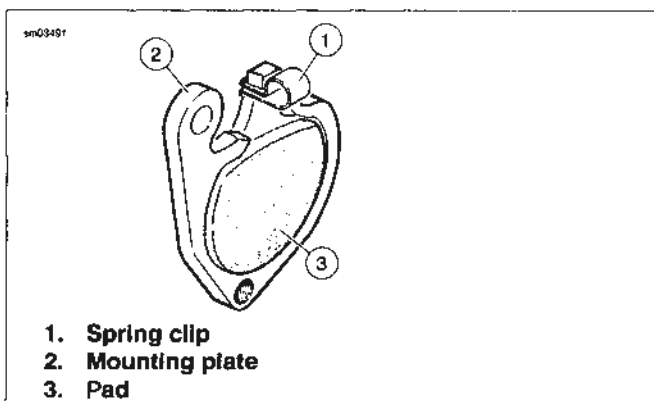

Figure 2-43. Spring Clip Installation
4. Position the gap of the retaining ring (8) at the top of the caliper and compress the retaining wire into the piston bore. Push the retaining wire firmly against the piston dust boot.
6. Lightly coat the cavity of dust boot (15) with Dow Corning 44 grease. Insert the flanged end of dust boot into the internal groove of the top caliper mounting lug.
7. Push the guide pin (16) into dust boot. Push guide pin until the dust boot seats in the grooved shoulder of the pin.
8. Place the inner pad of brake pad set (11) (without insulator backing) in the recessed seat, machined into the caliper.
9. Position the retainer pad (9) within the counterbore at the inside end of the caliper. Insert self-tapping retainer screw (10) through the hole in the center of pad retainer and thread into the hole in the pad. Tighten the screw to 40-50 **in-lbs** (4.5-5.6 Nm).
10. Lay the mounting bracket (17) down on a firm flat surface. The upper mounting bolt hole must be positioned at the upper right.
11. See Figure 2-43. Install the spring clip at the top of mounting plate as shown.